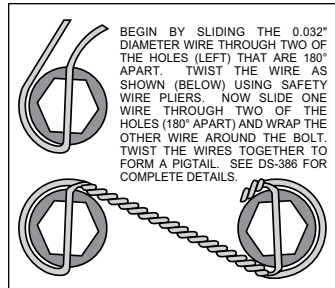

Figure 4. Safety Wire Diagram
- Orient the rotor (9) and the hat (10) as shown in Figure 1 and Photo 4. Attach rotor to hat using bolts (11) and washers (12). Apply red *Loctite*® 271 to the bolt threads and torque to 155 **in-lb** using a criss-cross pattern. For an added measure of security, the bolts may be safety wired using standard 0.032 inch diameter stainless steel safety wire as shown in Figure 4. Refer to Wilwood's data sheet DS-386 (available at www.wilwood.com/Pdf/DataSheets/ds386.pdf) for complete safety wire installation instructions.
- Pack the small outer bearing cone (13) with high temperature disc brake bearing grease and install into hub (6). Slide the hub assembly onto the spindle. Secure using spindle washer (14) and OEM spindle nut, Photo 5. Adjust bearings per OEM specifications. Install saved OEM nut lock (if any) and a new cotter pin (not included).